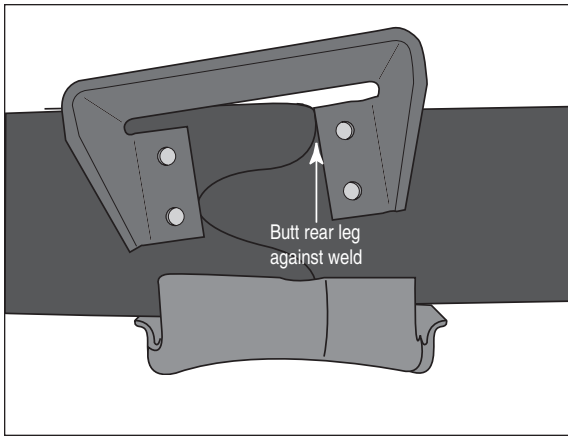
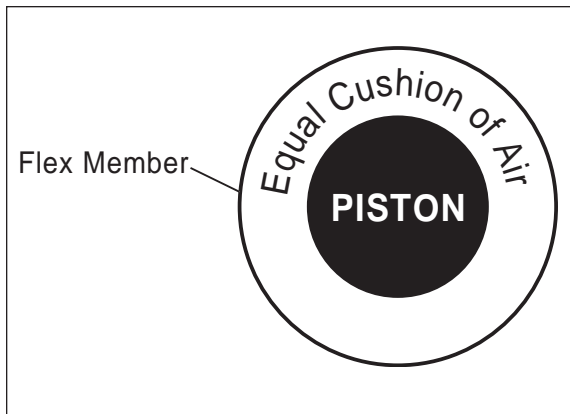

Figure 5
Figure 8
3. Adjust the lower bracket on the leaf spring so the rear leg of the upper bracket touches the weld where the two frame sections come together (Figure 5).
5. Secure the lower bracket to the leaf spring with the provided U-bolts (D), flat washers (F), and lock nuts (E). Torque to 16 ft/lbs.
6. The air spring will expand to 5.1" in diameter at maximum inflation pressure. Check horizontally along the shaft of the installation tool for sufficient clearance of 2.50" clearance all around the tool (Figure 8). Be sure to check and adjust any fasteners coming through the frame from the inboard side.
3. With the back leg of the frame butted up against the weld, lower or raise the bracket so the self-tapping screw will be below the radius of the frame (Figure 5).
2. Use the slotted adjustment in the lower bracket to correctly align the air spring between the upper and lower brackets. This can be accomplished by lightly tapping it inboard or outboard for proper alignment. There should be a symmetrical cushion of air around the base of the air spring when correctly positioned (Figure 8).